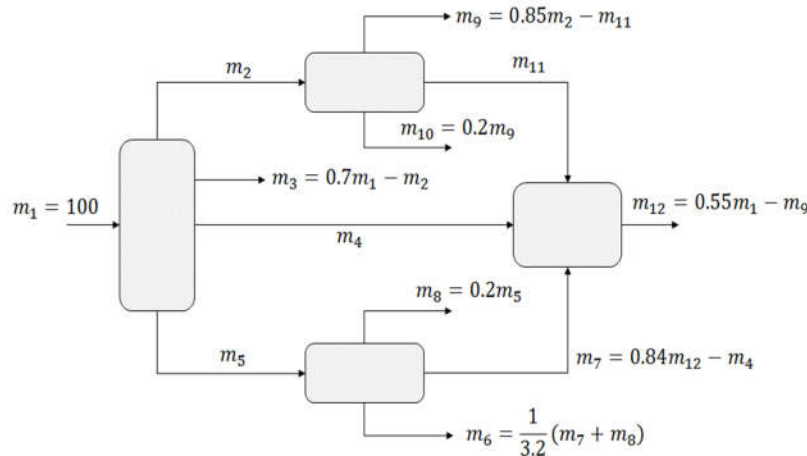

FIGURE P2.6 Simplified process flow diagram.
2.6 Consider the simplified process flow diagram shown in Figure P2.6.²¹ In the flow diagram, m_i ($i = 1, 2, \dots, 12$) represents flow rate of stream i . Assume that no mass accumulations and chemical reactions take place in the process units. The feed flow m_1 is maintained at 100 kg/min , $m_3 = 0.7m_1 - m_2$, $m_6 = (m_7 + m_8)/3.2$, $m_7 = 0.84m_{12} - m_4$, $m_8 = 0.2m_5$, $m_{10} = 0.2m_9$, $m_9 = 0.85m_2 - m_{11}$, and $m_{12} = 0.55m_1 - m_9$. It is required to determine the flow rates m_i ($i = 2, 3, \dots, 12$).